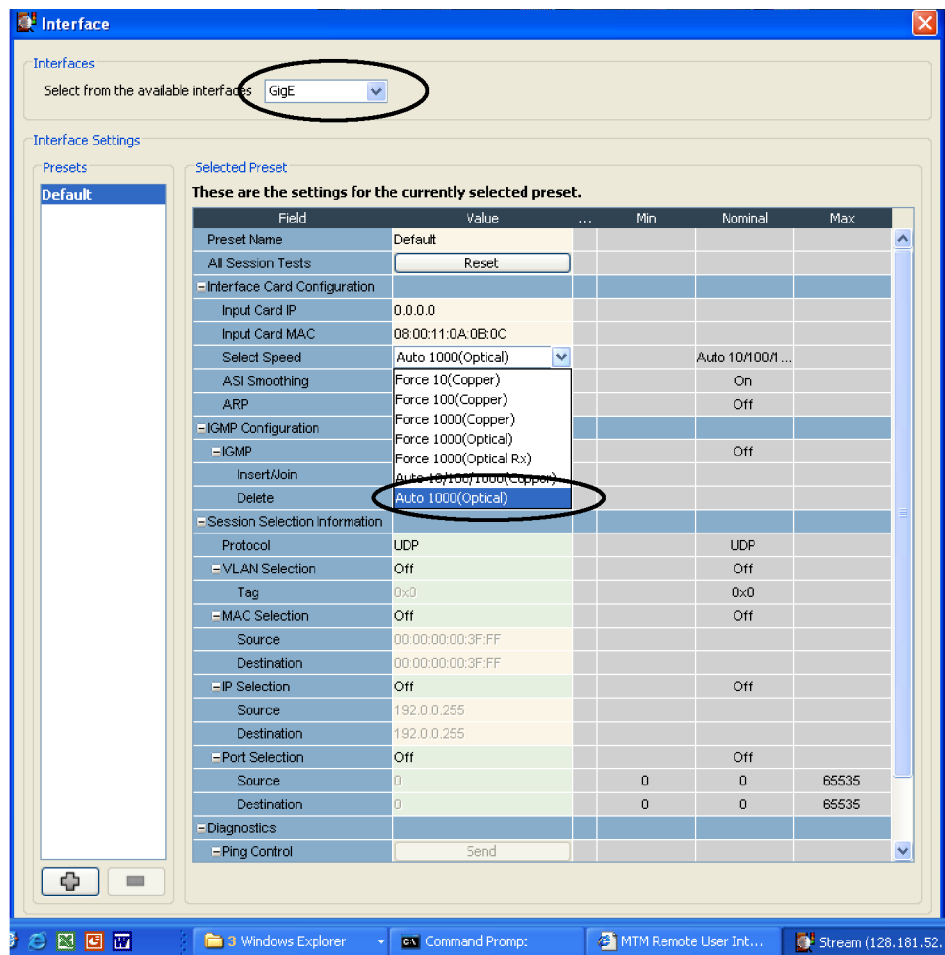

Figure 10: Selecting the interface card speed in the Interface dialog box
8. In the Interface dialog box, select **GbE** from the Interfaces drop-down list, and then select **Auto 1000(Optical)** from the Select Speed drop-down list. (See Figure 10.)